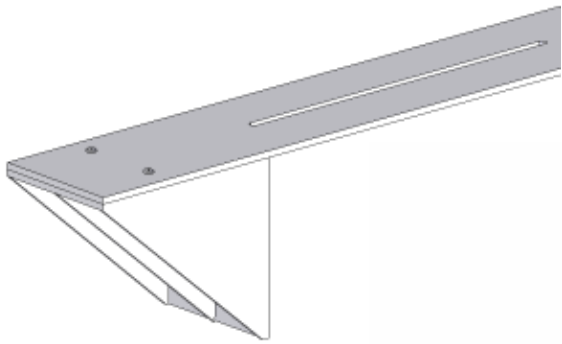

Figure 2
- 6.1 Place the TMB offset fixtures into the ends of the TMBs that have the two threaded screw holes that match the raised plastic areas on the fixtures. **See Figure 2.**